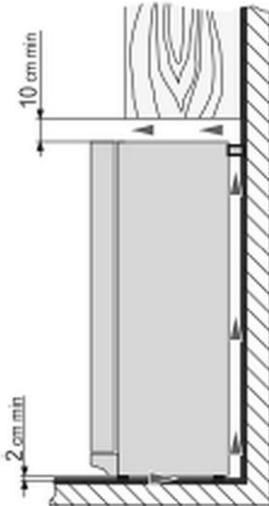

Fig. 3
- Maintain a minimum clearance of 10 cm between the top side of the appliance and objects that are above it (e.g., a cabinet) (Fig. 3).